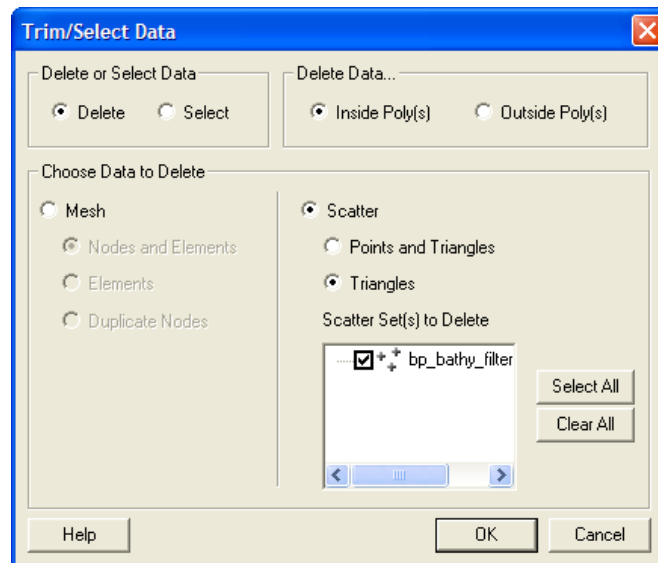

Figure 20-4. Trim/Select Data Options
7. Choose Feature Objects|Select/Delete Data ... This brings up the dialog shown in Figure 20-4. Set the options to delete triangles inside the polygon and click OK.